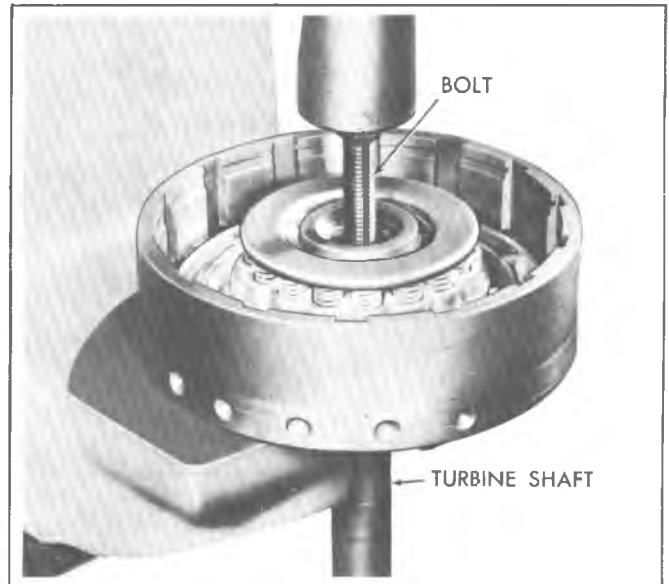

Fig. 7A-82C--Removing Turbine Shaft from Forward Clutch Housing
5. If necessary place forward clutch and turbine shaft in arbor press and remove turbine shaft (Fig. 7A-82C).